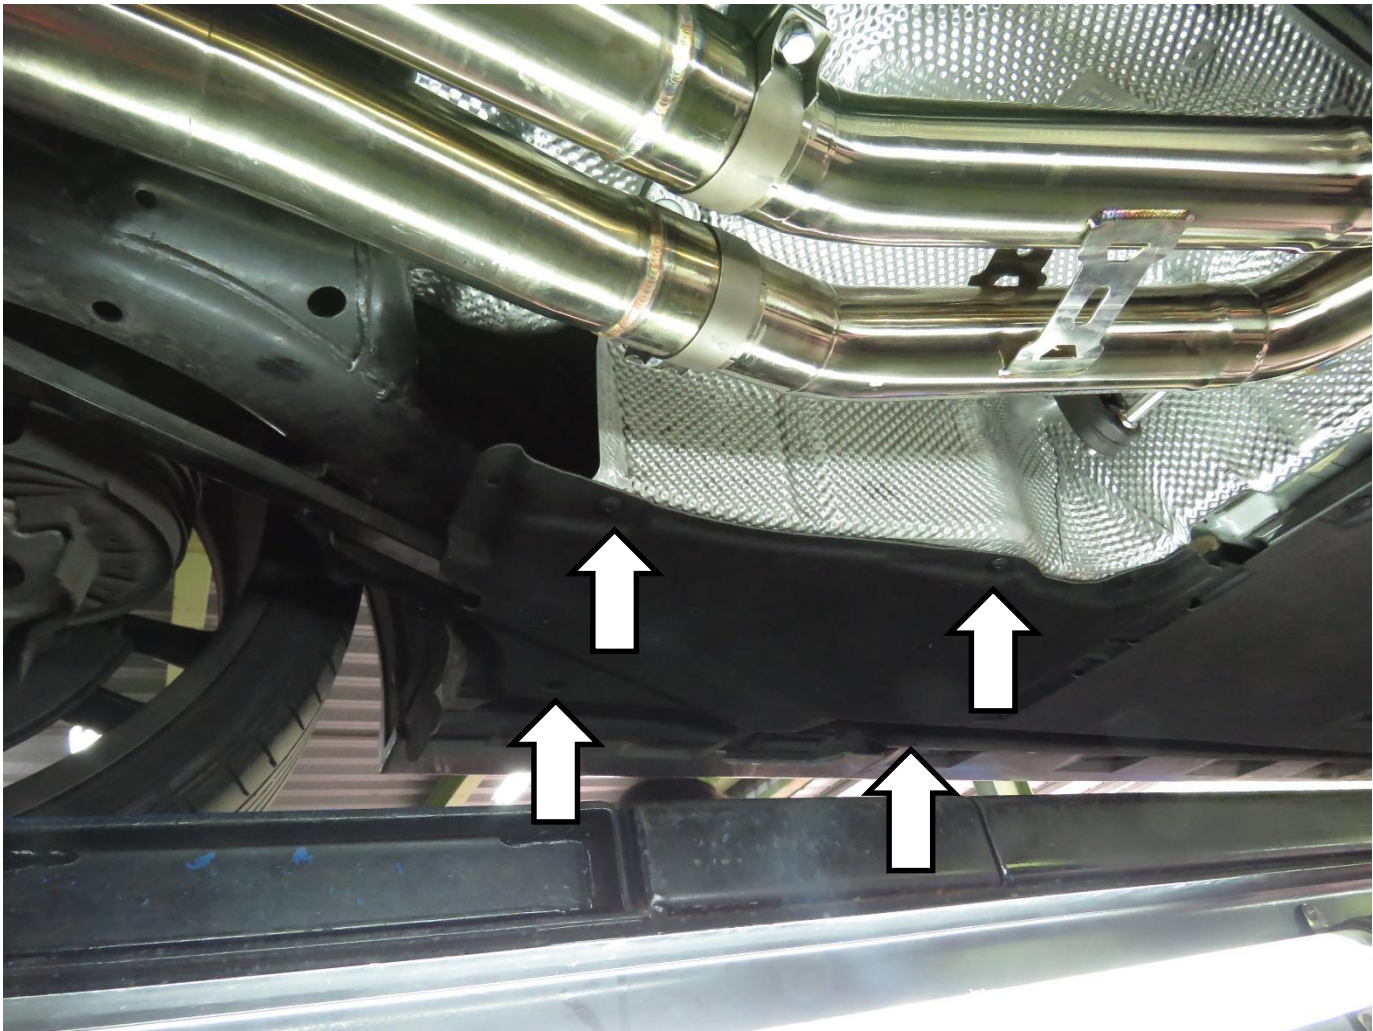

Figure 1
- 1) Remove the bottom cover and screws, left and right as well (Figure 1).